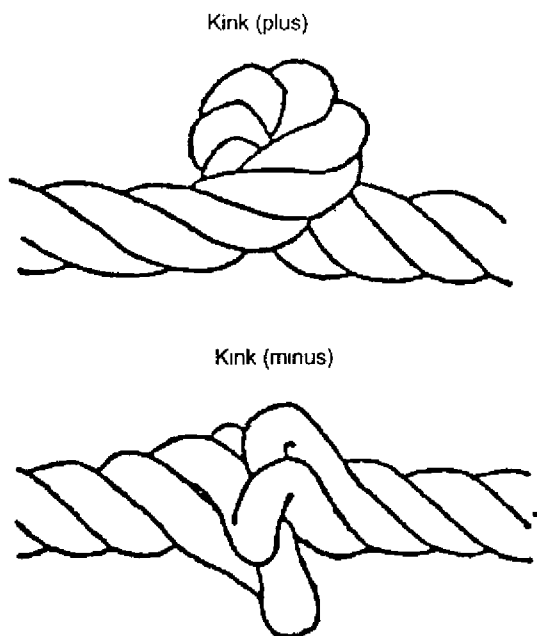

Fig. 3-2-2
- (6) Do not use rope while in a twisted, unnatural state; this might cause extreme crimping or kinking (See Note 1). Nor should you keep a load hanging for a long period of time. (Fig. 3-2-2)
- (7) When using several ropes, differentiate as necessary by color.
- (8) When setting up a rope to carry people or materials, use a rope having proper length for the job so that no knots need to be made except for the ends and hitched areas.